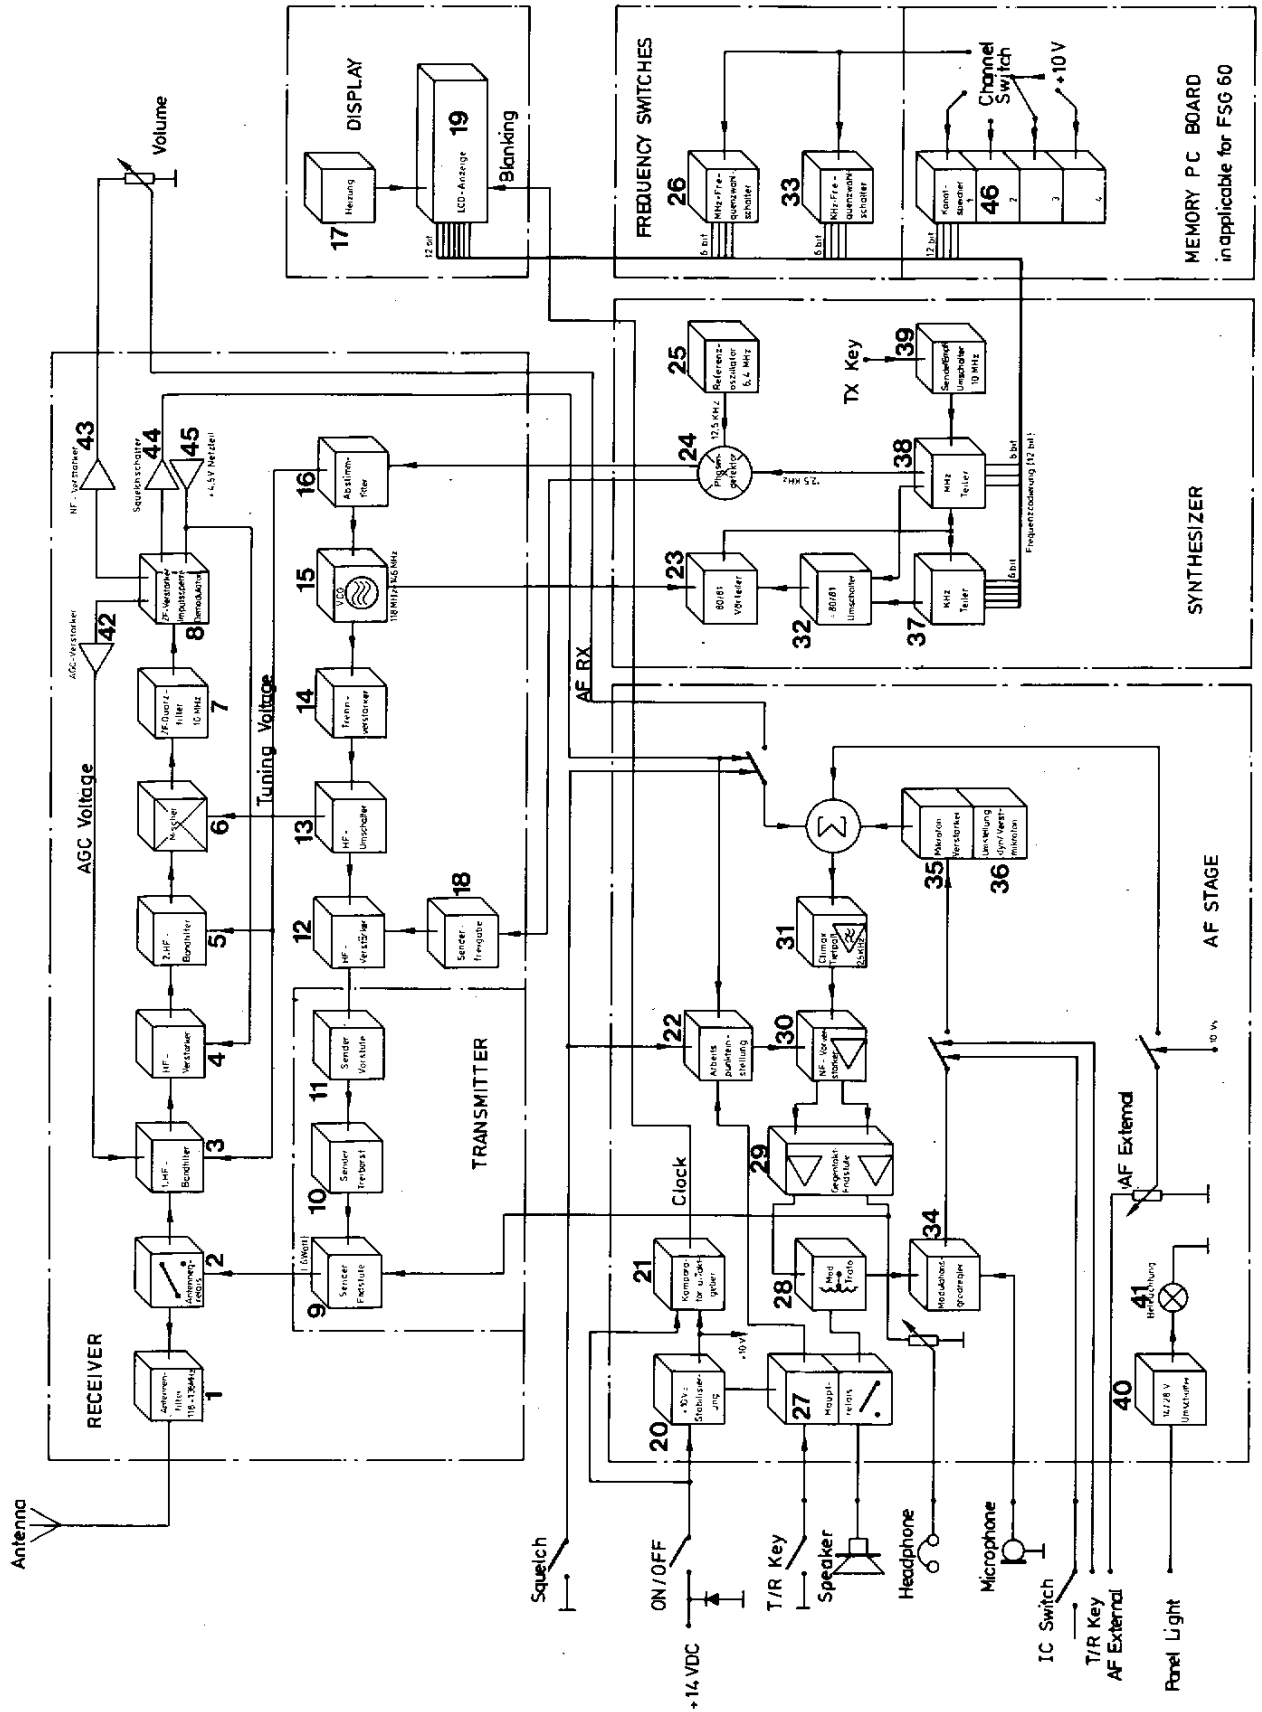

Fig.5-1 FSG 60/FSG 60 M Block Diagram
5.2 Functional Description (with Block Diagram Fig. 5-1)